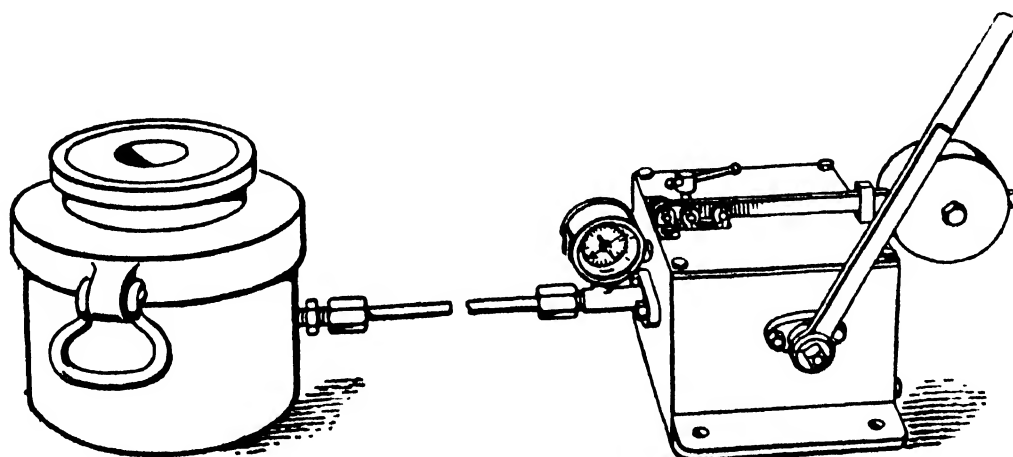

FIG. 23.—The Hydraulic-jack, Separate Units.
**Separate Units.**—From practical experience, the author considers that the ship-jack with two separate units, as shown in Fig. 23, is a better type than the one previously described. The connection from the pump to the cylinder is by a more